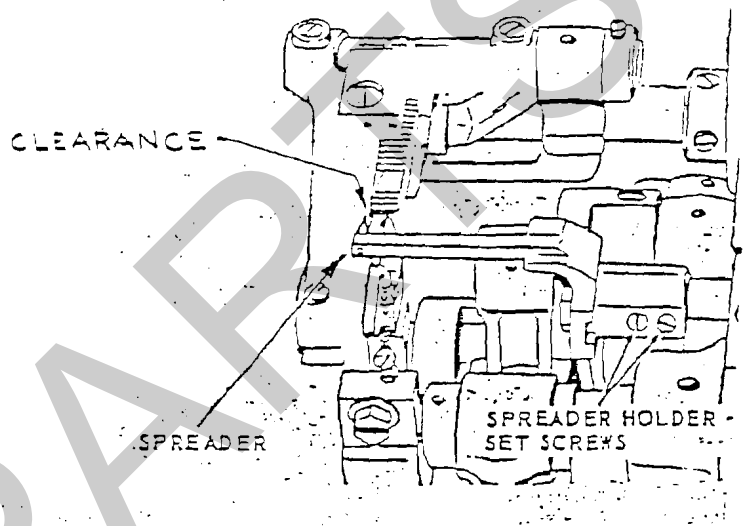

Fig. 21
- the clearance between the spreader point and the looper should be equal to two thicknesses of ordinary paper Fig 21